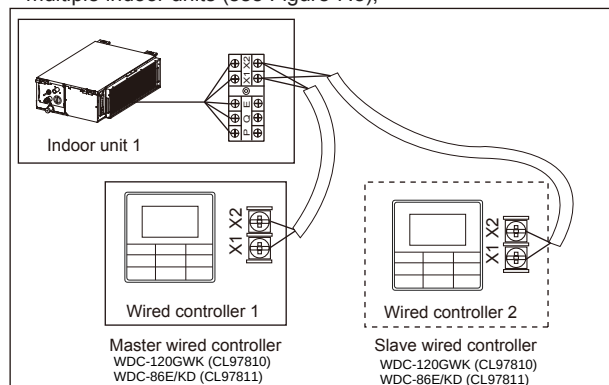

Figure 7.7
- ◆ Use 1 wired controller to control 1 indoor unit or 2 wired controllers (one master and one slave controller) to control 1 indoor unit (see Figure 7.7);